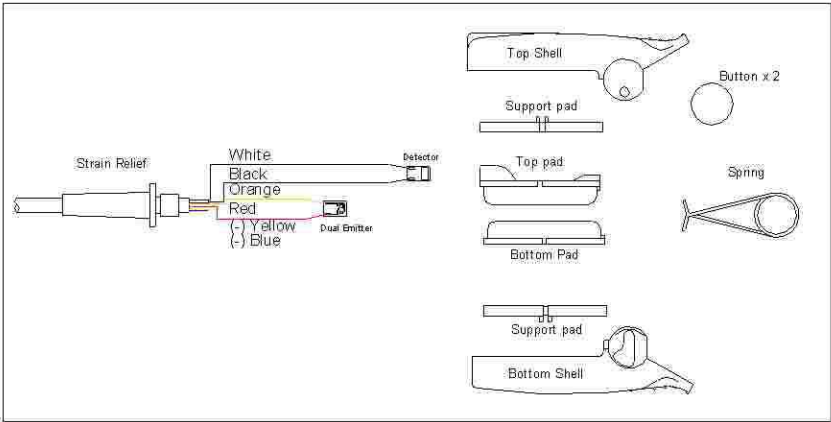

Fig 2.3
- 1.      Solder wires to the detector, LED/I.R as shown in fig 2.3